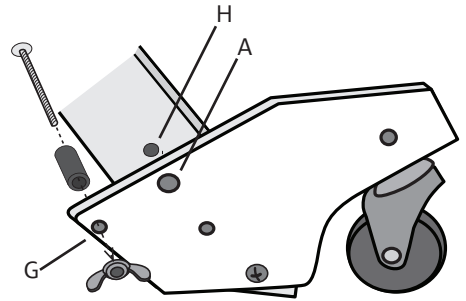

FIGURE 3
5. Attach the right rear caster block with the new 4" machine screw through the bottom hole (C) and the caster wheel towards the back and on the floor (Figure 3). Tighten the bolt into the barrel nut so that the stroller rotates, but is not loose.